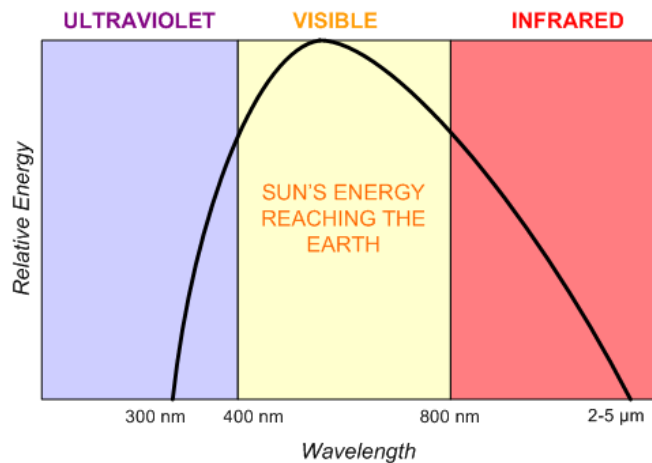

Figure 1: Emission Energy Spectrum.
There are four primary optical flame-sensing technologies in use today: ultraviolet (UV), ultraviolet/infrared (UV/IR), multi-spectrum infrared (MSIR), and visual flame imaging. They are all based on line-of-sight detection of radiation emitted in the UV, visible, and IR spectral bands by flames (see Figure 1). Technologies may be selected to suit the requirements of flame